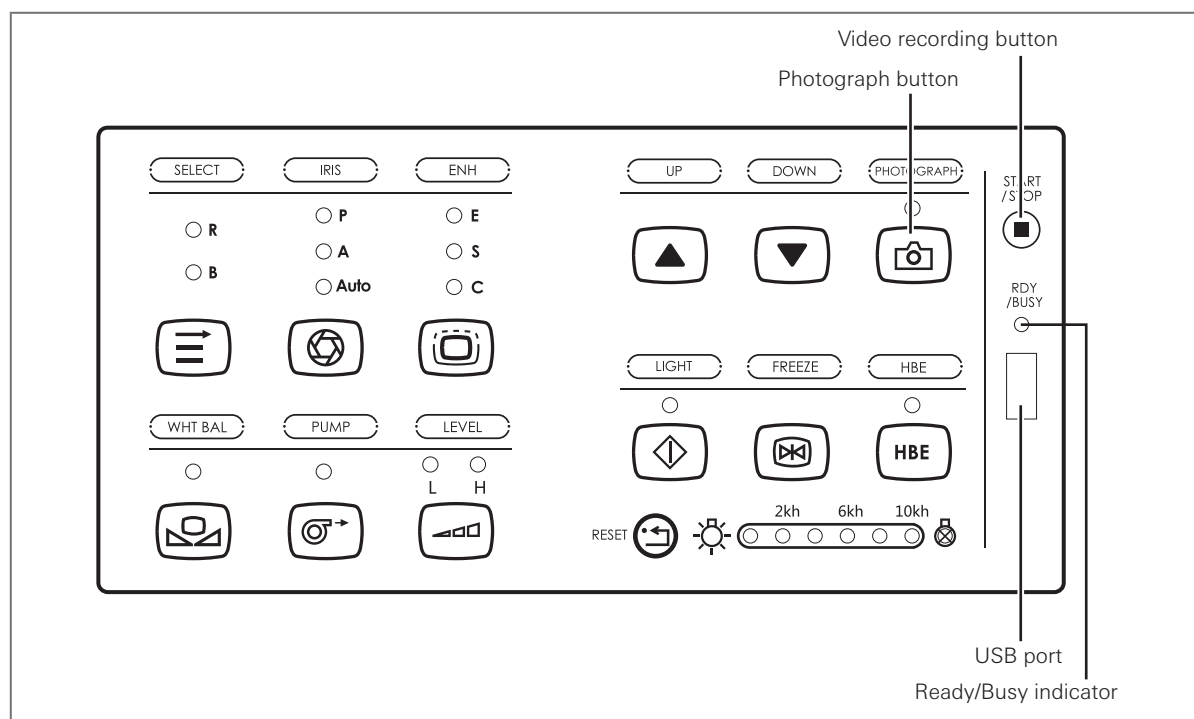

Figure 4.10
1. Connect a USB storage device to the USB port (see Figure 4.10).